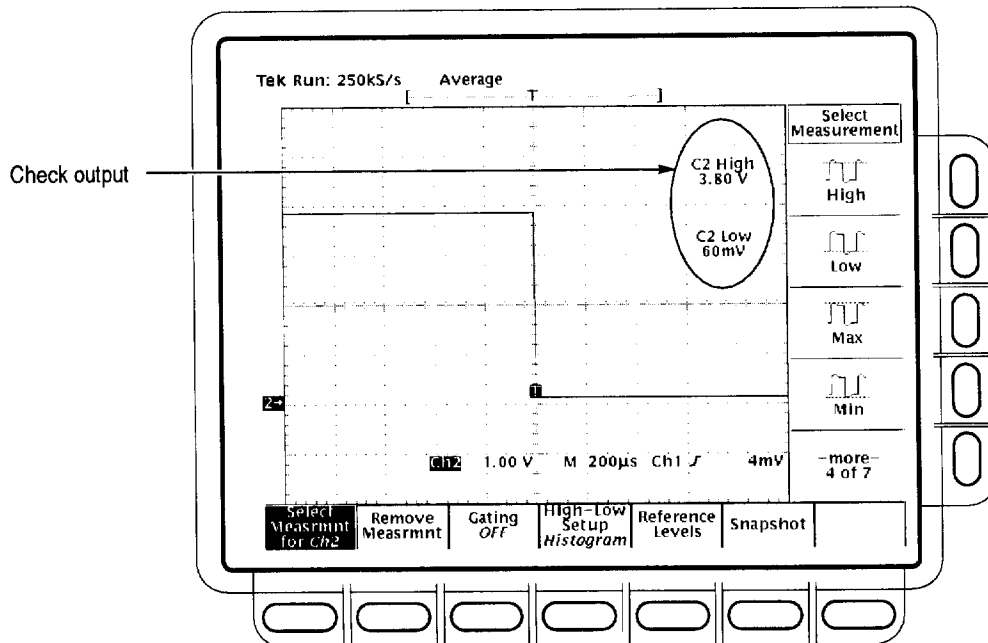

Figure 1-21: Measurement of main trigger out limits
- d. *Check Delayed Trigger output against limits:* See Figure 1-21.